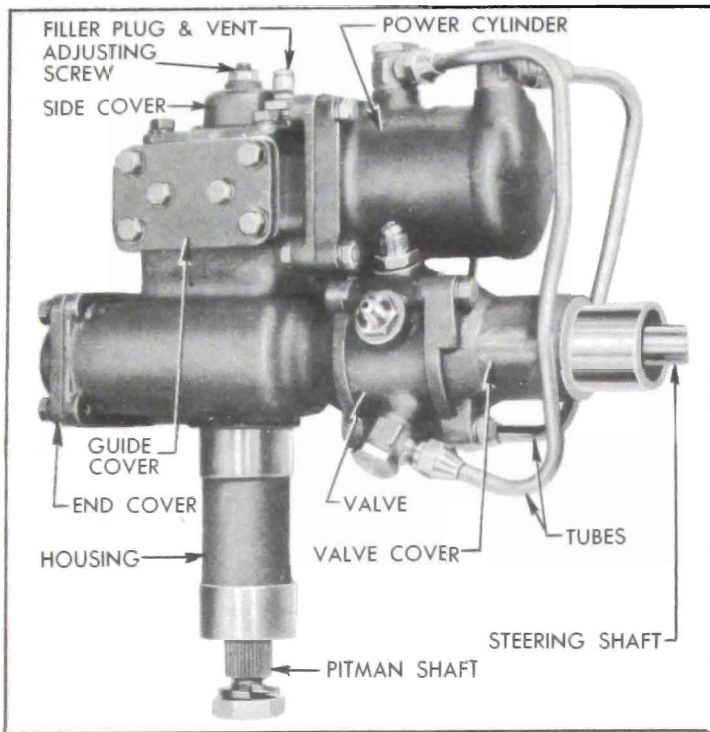

Figure 7-4—Left Side of Power Steering Gear Assembly
cylinder tubes, and the small bleed line tube, then allow oil to drain from hydraulic valve and power cylinder. Remove filler plug with vent and drain lubricant from gear housing. See figure 7-4.
3. Turn steering shaft clockwise as far as possible, remove the four corner bolts only from the power rack guide cover, then remove the cover and guide assembly and all cover shims. See figure 7-4.